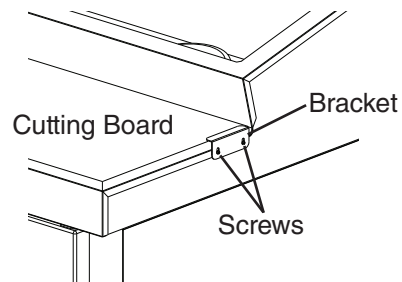

Fig. 7
- 2) Slide the cutting board (sold separately) under the cutting board brackets. To secure the cutting board, slide the cutting board brackets down onto the cutting board and tighten the screws. See Fig. 7.